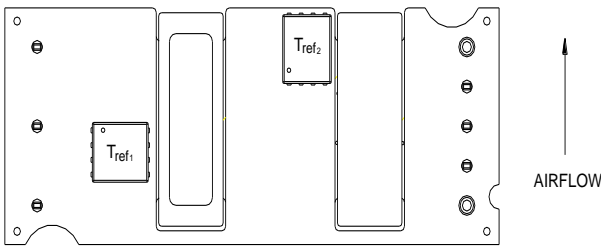
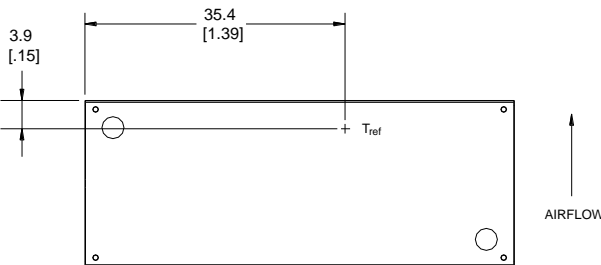

Figure 13. T_{ref} Temperature Measurement Locations for Open Frame Module.
Figure 14. T_{ref} Temperature Measurement Location for Module with Heat plate.
To provide protection under certain fault conditions, the unit is equipped with a thermal shutdown circuit. The unit will shutdown if the thermal reference point, T_{ref} , exceeds 135 $^{\circ}$ C (Figure 13, typical) or 120 $^{\circ}$ C (Figure 14, typical), but the thermal shutdown is not intended as a guarantee that the unit will survive temperatures beyond its rating. The module will automatically restart upon cool-down to a safe temperature.
The thermal reference points, T_{ref1} , & T_{ref2} , used in the specifications for open frame modules are shown in Figure 13. For reliable operation these temperatures should not exceed 120 °C and 124 °C
The thermal reference point, T_{ref} , used in the specifications for modules with heatplate is shown in Figure 14. For reliable operation this temperature should not exceed 98 °C.